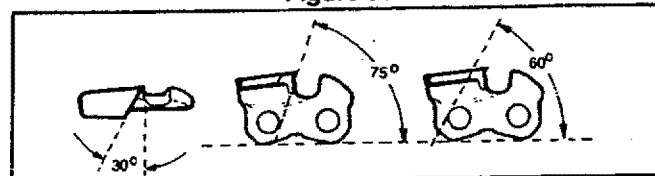

Figure 31
- f.) File chain to meet specifications shown in Figure 31.
Maintain the proper hook angle according to the manufacturer's specification for the chain you are using. Improper hook angle will increase the chance of kickback which can result in serious injury. Figures 31 & 33.